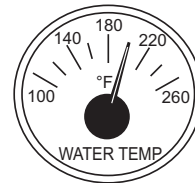

Figure 52. Coolant Temperature Gauge
8. The coolant temperature gauge (Figure 52) will indicate the coolant temperature. Under normal operating conditions the coolant temperature should be between 185°–207°F (85°–97°C).